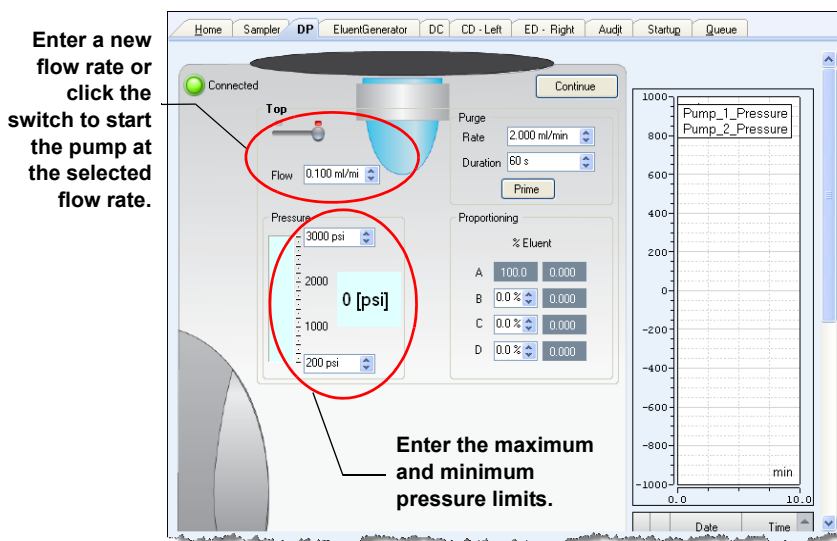

Figure 4-7. Setting the Pump Flow Rate and Pressure Limits (Chromeleon 7 Version Shown)
3. On the Chromeleon 7 ePanel Set or the Chromeleon 6.8 panel tabset, click the **Pump** tab to display the Pump panel (see Figure 4-7).